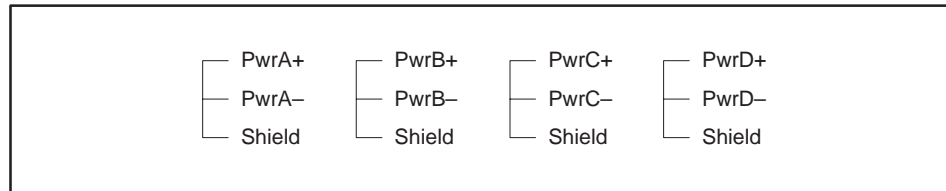

Figure 2-9 Wiring for Unused Outputs, Models 505-7012 and 505-7016
5. Wire the combined terminals to the chassis ground. See Figure 2-9 for an example.